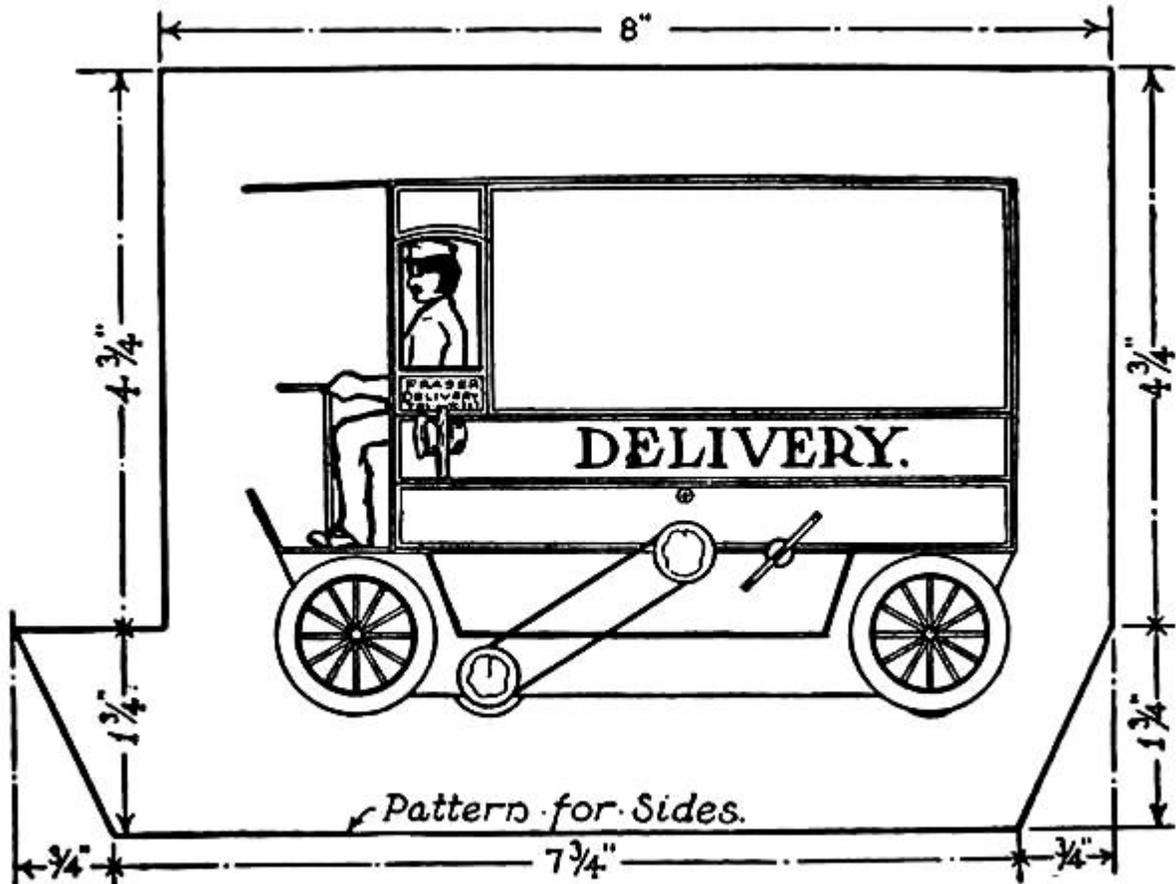

FIG. 390.—An Automobile Delivery Wagon.
**An Automobile Delivery Wagon**, such as illustrated in Fig. 390. To make this you will require the same frame as that used for the touring-car, with the clockworks and belt-wheels attached in the same manner. If you have made the touring-car, remove the cardboard sides from its wooden frame, separating the cardboard from the wood carefully, so you can put the machine together again when you wish. If you haven't made this automobile, you will find the details for the construction of the frame in Figs. 376 and 377, and the manner of performing the work described on pages 343 to 346.
**The Cardboard Sides** are much easier to prepare than those for the touring-car, as they are straight and require but little cutting. The outline for these is shown in Fig. 390, surrounding the drawing of the completed wagon. Lay out one side upon a piece of cardboard, using the dimensions given upon the drawing, and then place it upon a board and cut it out with your knife. Using this as a pattern, place it upon another piece of cardboard and run a pencil around its edges, thus marking out the second side. In cutting out the latter piece, run
Make the floor and footboard for the wagon out of a piece of cardboard bent as shown in Fig. 390, and fasten it across the top edges of the projecting portions of the sides with linen strips. Cut a